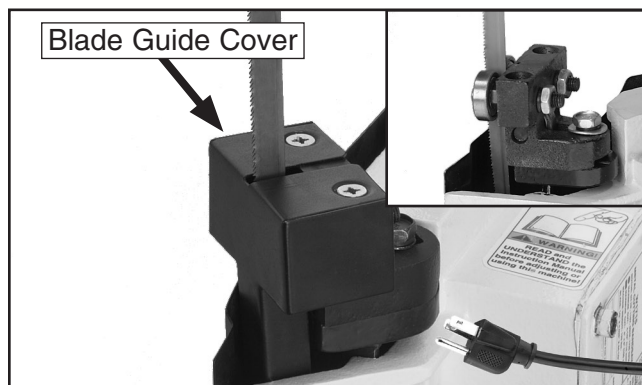

Figure 16. Blade guide cover.
1. Remove the two flat head screws and the blade guide cover shown in **Figure 16**.